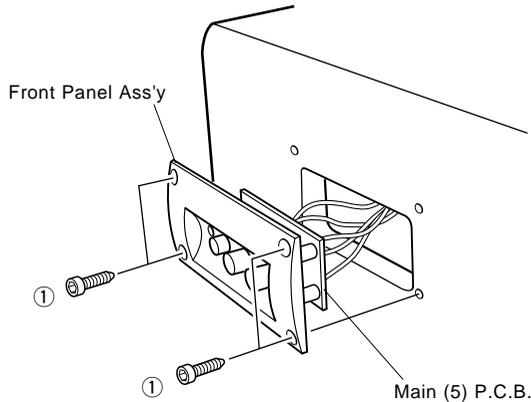

Fig. 1
Remove 4 screws ( ① ) and then remove the Front Panel Ass'y in Fig. 1.